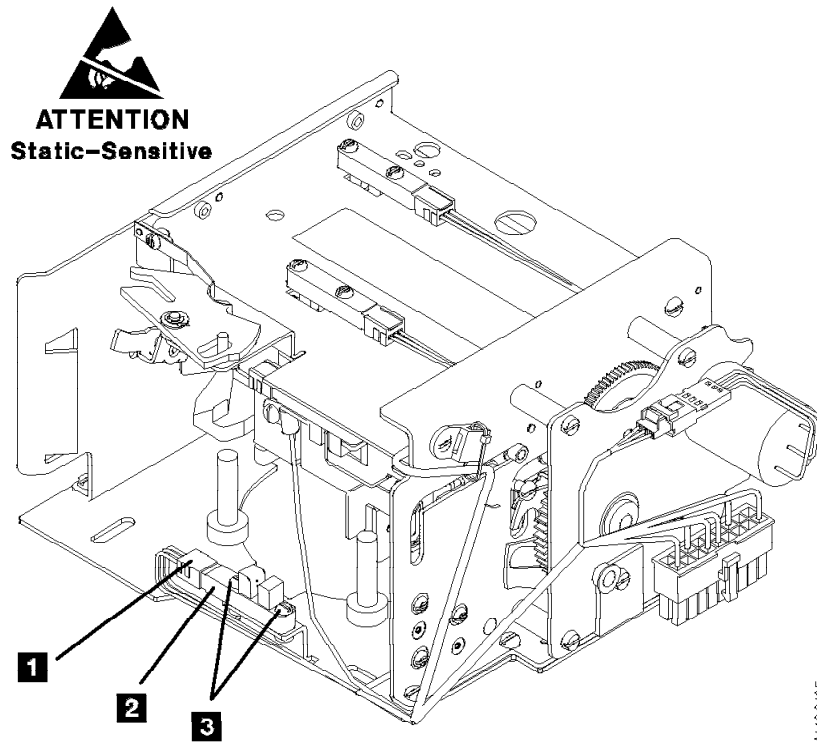

Figure 337. File-Protect Sensor
3. See Figure 337. Remove two screws **3** securing the file-protect sensor **2**.